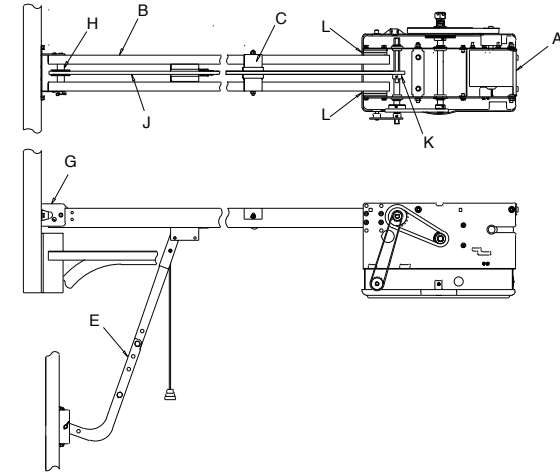

Figure 1
The Model RMX™ Drawbar Operator consists of the Power Unit (A), Drawbar Track (B), Chain Guides (C), Drawbar Arm (E), Front Spreader (G), Front Idler Pulley (H), Drive Chain (J), Drive Sprocket (K) and Drawbar Track Spacer (L). The Drawbar track length, chain length and quantity of chain guides will vary by door heights. **Fig. 1.**
- 1) The Drawbar Track Spacers are attached to the Power Unit at the factory. **Fig. 1.**